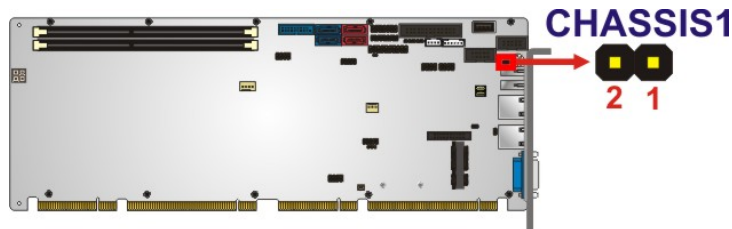

Figure 3-5: Chassis Intrusion Connector Location
- CN Location:** See Figure 3-5